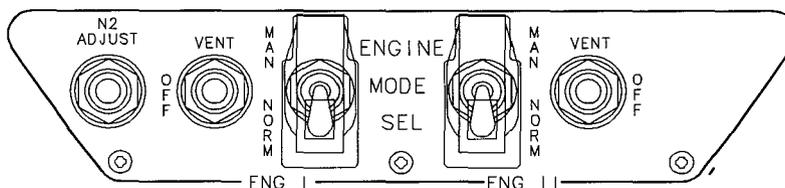

Fig. 7-16 ENG MODE SEL switches
7.4.3.5 N2 ADJUST rheostat (see Fig. 7-16)